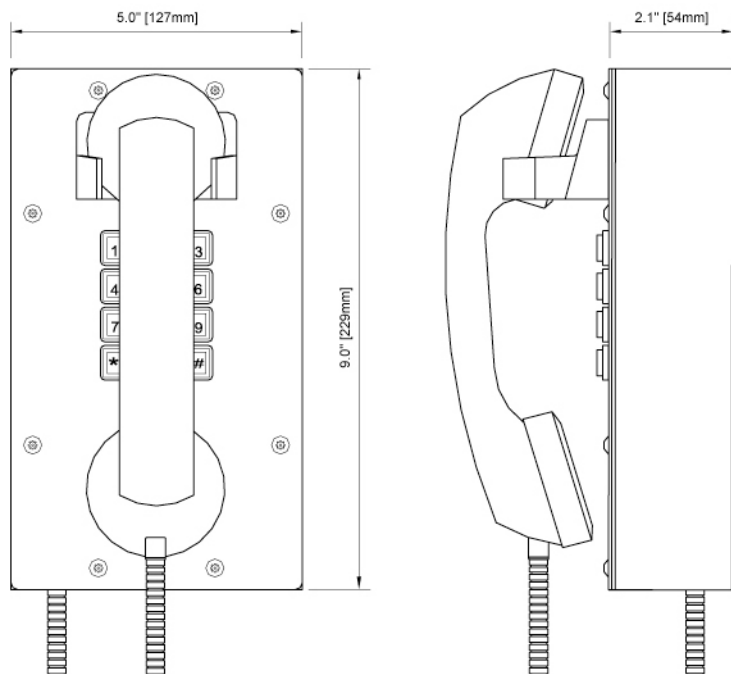

Figure 2 - Dimensions
- Remove the eight (8) cover screws from the front of the unit and carefully remove the front cover assembly. NOTE that the handset and all electronics are attached to the front plate. The front cover may be separated from the back box by disconnecting the harness plug.
**See:** *Figure 2 - Dimensions*